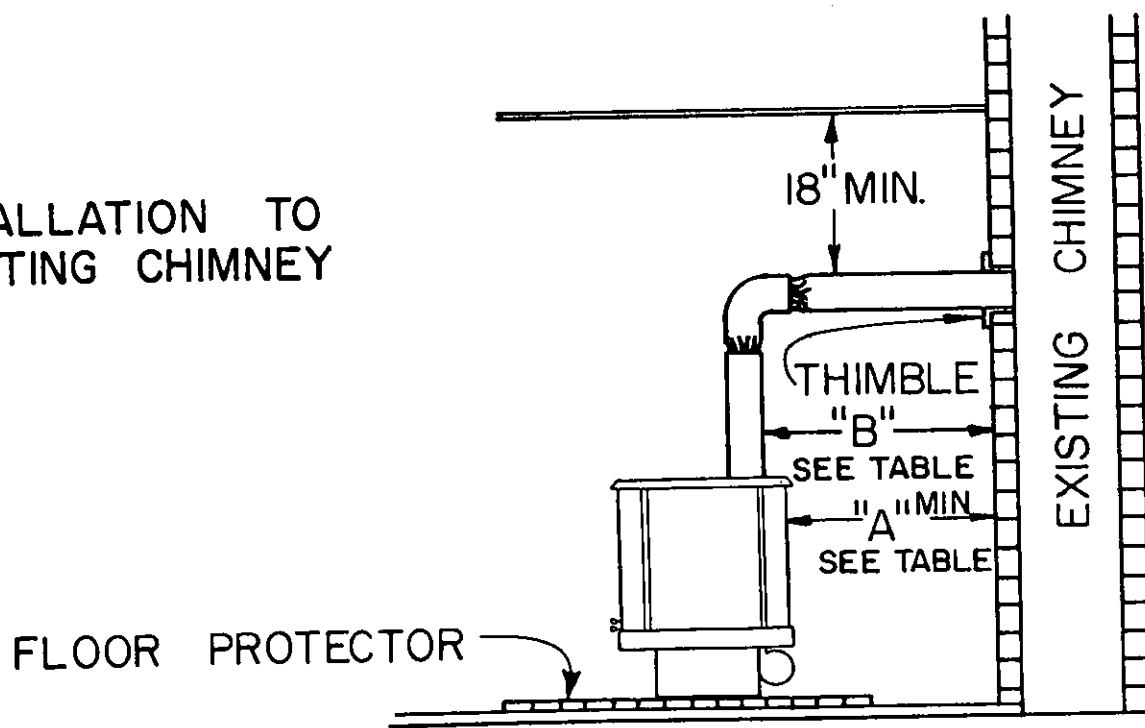

FIGURE 6
2. The connector pipe should be 18 inches or more from combustible material except as noted. (See Figure 6) Clearances may be reduced by utilizing additional protection.
BRICK CHIMNEY WITH THIMBLE: When an existing chimney is used, be sure that it is in good repair and has a suitable chimney flue liner. Many local fire departments will inspect your chimney free of charge. According to NFPA No. 211, a connector to a masonry chimney shall extend through the wall to the inner face or liner but not beyond and shall be firmly cemented to masonry. A thimble may be used to facilitate removal of the chimney connector for cleaning, in which case the thimble shall be permanently cemented in place with high temperature cement. (See Figure 6)